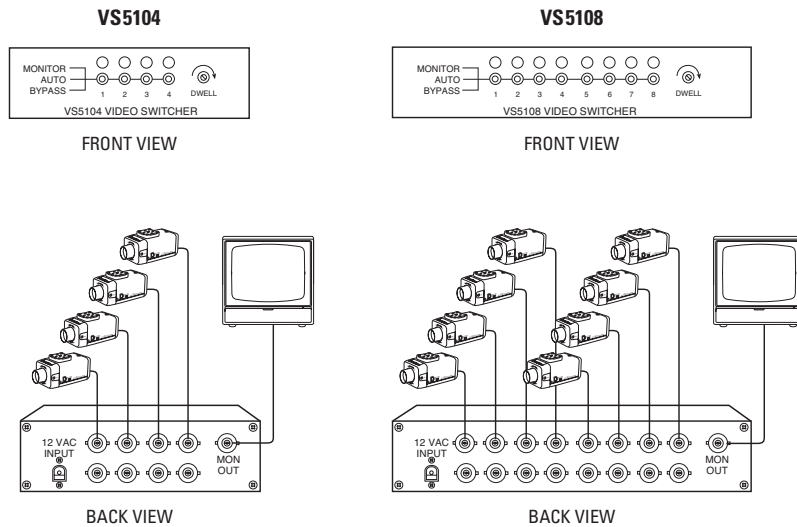

Figure 2. VS5104/VS5108 System Configuration
2. Make all equipment connections for your system configuration. Refer to Figure 2.